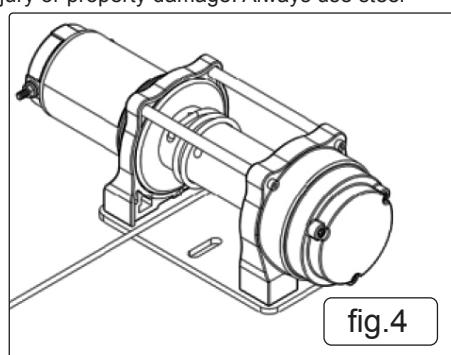

fig.4
- 6.2.1. When viewing the winch from the motor side, the drum must rotate clockwise to power in and counter-clockwise to power out, regardless of foot orientation, to ensure the brake functions correctly. Otherwise, the brake may resist the motor while lifting. Power the winch in with less than 100 lb (45 kg) of line tension to wind the cable evenly, and maintain at least five full wraps around the drum to prevent the cable from coming loose under load. Fig.4